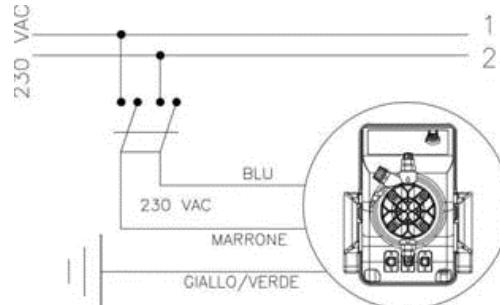

Fig. 4
1. Disconnect the pins from the mains or by means of a two poles switch with 3 mm minimum distance between the contacts. (Fig. 4).
b. - Carefully observe the regulations in force in the various countries as regards electrical installations (Fig.4).